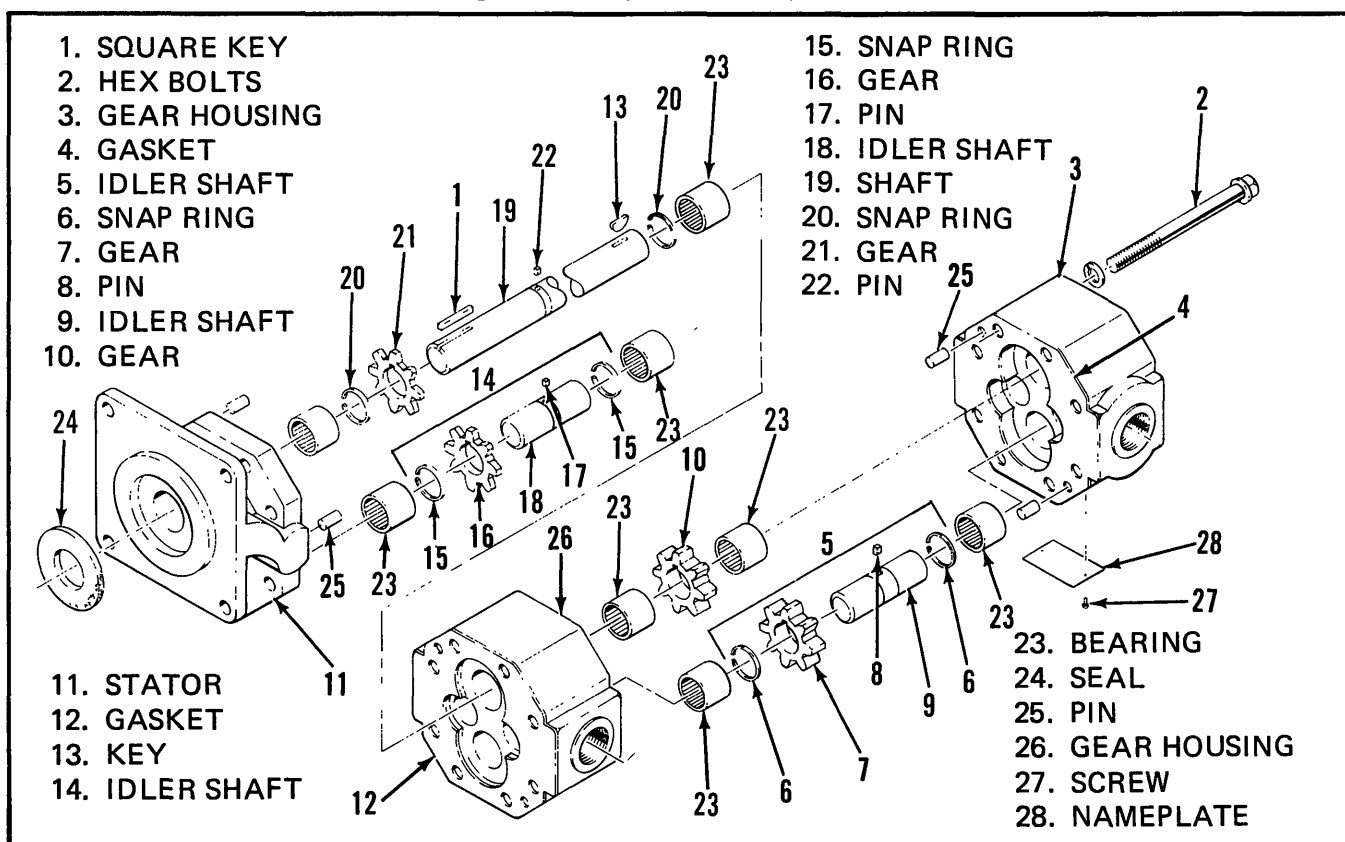

Figure 5-9. Hydraulic Pump Disassembly
(2) Loosen the setscrews (4 and 5) then slide the three piece coupling (6) toward the engine, or electric motor, as far as possible.
(3) Remove the nuts (7) and lockwashers (8) to free the pump (9) from the mount.
(4) As the pump (9) is maneuvered away from the mount, slide the coupling off the pump shaft. Take care to retain the key (10).
b. Disassembly and Inspection (Figure 5-9).